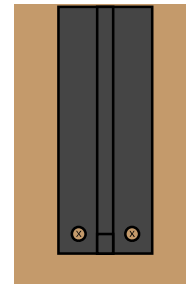

Figure 1
4. Use the bracket as a template to mark and drill 1/8" pilot holes 1/2" deep (see Figure 1).